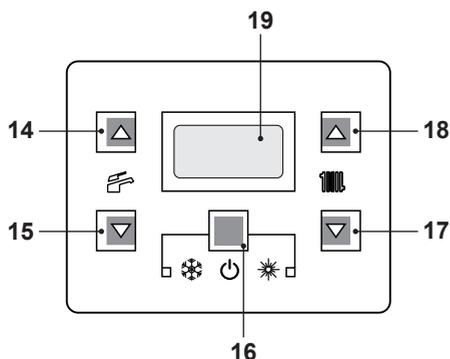
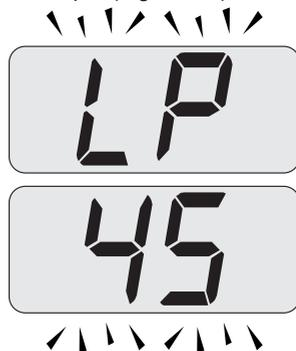
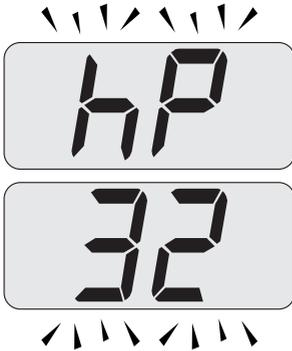

Fig. 10.18
Fig. 10.20
Fig. 10.21
- Enter in "programming mode" by sequentially pressing and holding in keys, 16 - 17 and then 18 (Fig. 10.18) for 10 seconds until the letters **Pr** that alternate with the heating water temperature value (e.g. **45**), indicating the activation of the "flue sweep function" at minimum output (Fig. 10.20).
- Press keys 17 and 18 (Fig. 10.18) at the same time until the LCD display displays the letters **LP** that alternate with the heating water temperature value (e.g. **45**), indicating the activation of the "flue sweep function" at minimum output (Fig. 10.20).
- By pressing 18 (Fig. 10.18) it is possible to change power in flue sweep mode: with the letters **hP** on the LCD display which alternate between the heated water temperature (i.e. **32**), we are in the "flue sweep function" at the minimum power during heating (Fig. 10.21).
- Press sequentially keys, 16 - 17 and then 18 (Fig. 10.18) and hold in for 10 seconds to exit the "flue sweep mode" and return to the previously set boiler status (Fig. 10.24).